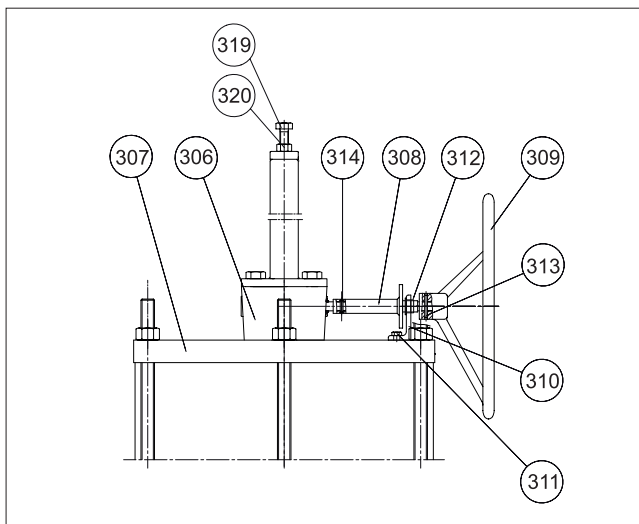

Fig. 27 B1JRR actuator
The B1JRR actuator is otherwise like the B1J except that it can be operated manually to bring the piston to the lower position against the spring in case there is no air supply. Turning the handwheel clockwise opens the valve. The B1J actuator can be changed into a B1JRR by replacing the cylinder end (44) accordingly and adding parts (306 to 320), see Fig. 27.
Parts list for Fig. 27: